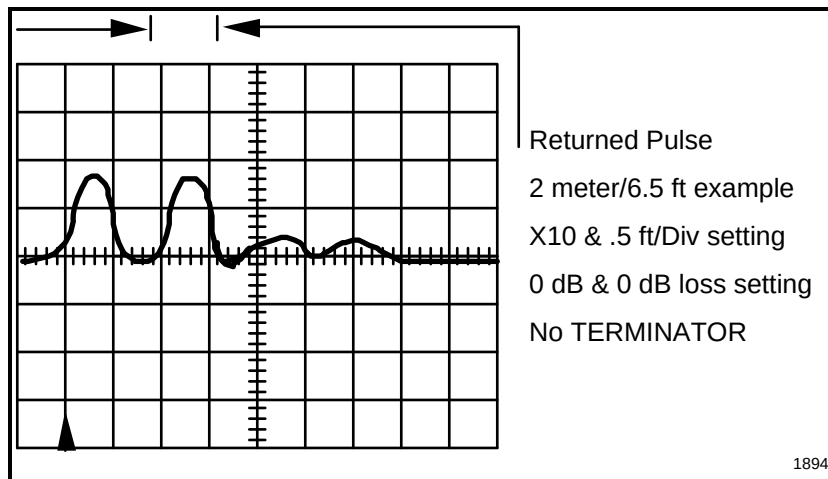

Figure C-2
2. Connect the COAX to be tested to the Cable Jack on the TDR. Do not terminate the other end. The screen must look like Figure C-2 or C-3.